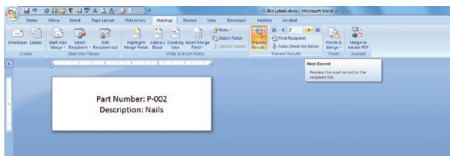

FIGURE 16 Word template with Next Record arrow selected and second label in the sequence displayed.
- N. Click on the **Next Record** arrow to display the next label in the sequence (Fig. 16).